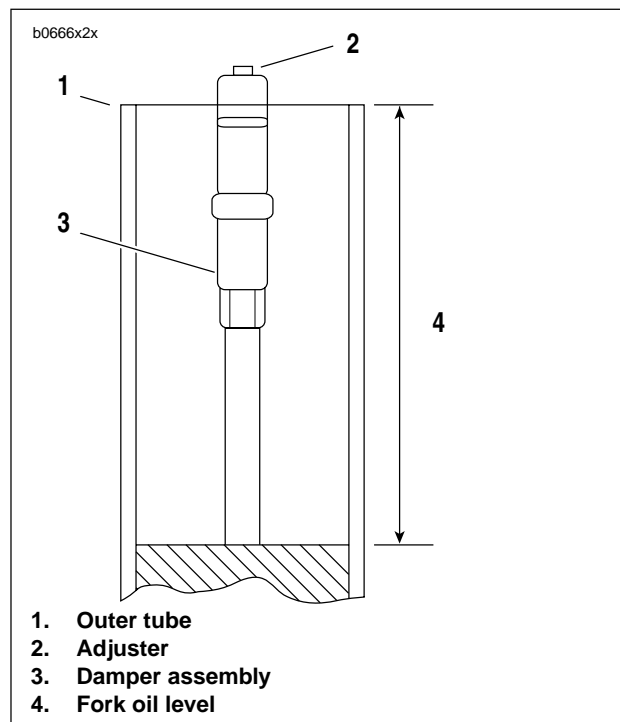

Figure 2-65. Measuring Fork Oil Level
- See Figure 2-65. Adjust fork oil level with FRONT FORK OIL LEVEL GAUGE (Part No. B-59000A) so that it is 4.6 in. (118 mm) from the top of the fork tube.